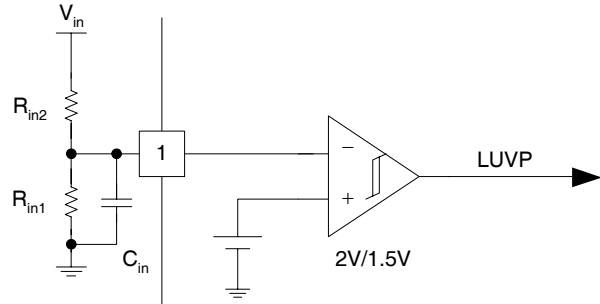
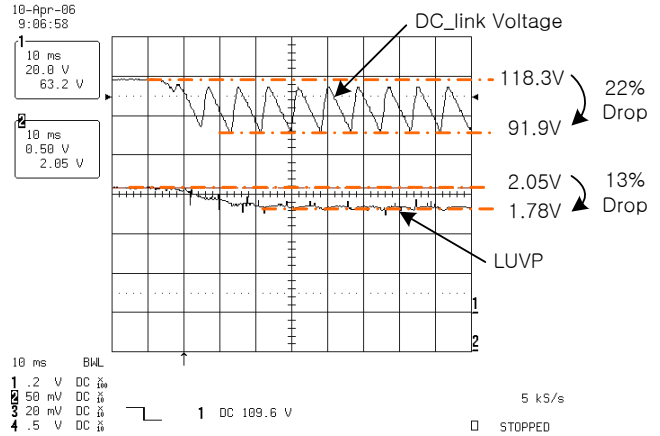

Figure 14. LUVP Circuit
Figure 15. LUVP Start-up Waveform
If the input voltage of the converter is lower than the minimum operating voltage, the converter input current increases too much, causing component failure. Therefore if the input voltage is low, the converter should be protected. In the FAN7602, the LUVP circuit senses the input voltage using the LUVP pin and if this voltage is lower than 2V, LUVP signal is generated. The comparator has 0.5V hysteresis. As shown in Fig. 14, the LUVP pin needs a filter capacitor to filter the input voltage ripple. If this filter is not enough, the LUVP function works unintentionally at lowest input voltage. The filter time constant is $R_{in1} * C_{in}$ because R_{in2} is much higher than R_{in1} and a proper value for the time constant is about 10ms. Because R_{in2} value must be high to reduce the power loss, a 10MΩ resistor is used in the demo board. R_{in1} and C_{in} values can be calculated by (3). If the minimum AC line voltage is 85Vac, the calculated R_{in1} is 167kΩ and the used value is 180kΩ. Figure 15 shows a typical start-up waveform of the LUVP pin when the line voltage is 85Vac and the output load is 4A. Before the IC starts switching, the DC_link voltage is the peak value of the AC line voltage, 118.3V. If the IC starts switching, the DC_link voltage has a ripple and the minimum voltage of the DC_link voltage drops by 22% of the peak value. The LUVP pin voltage drops by 13% of the peak value, from 2.05V to 1.78V, due to the averaging effect of the filter. The LUVP protection works when the AC line voltage is 72Vac at full load. If a RC filter with 5ms time constant is used, the LUVP protection level is increased to 73Vac because the ripple of the LUVP pin voltage increases.